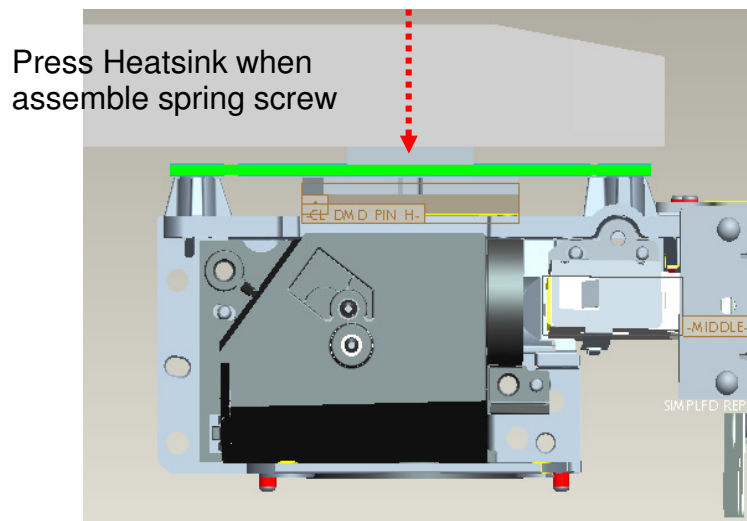

Fig. 7-6-1
7.4 Assemble Thermal Pad & Gasket Heat-sink then place contact DMD (Fig. 7-6-1).